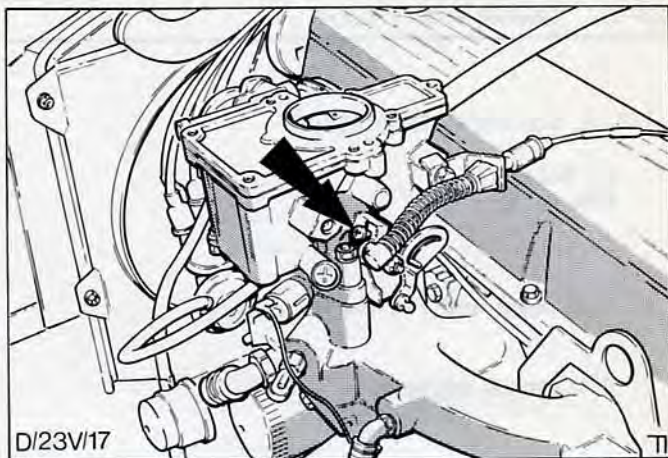

Fig.42. Variable Venturi carburettor, idle speed adjusting screw.
6. Adjust idle speed screw to achieve correct idle rpm, Fig.42. Refer Technical Data section.